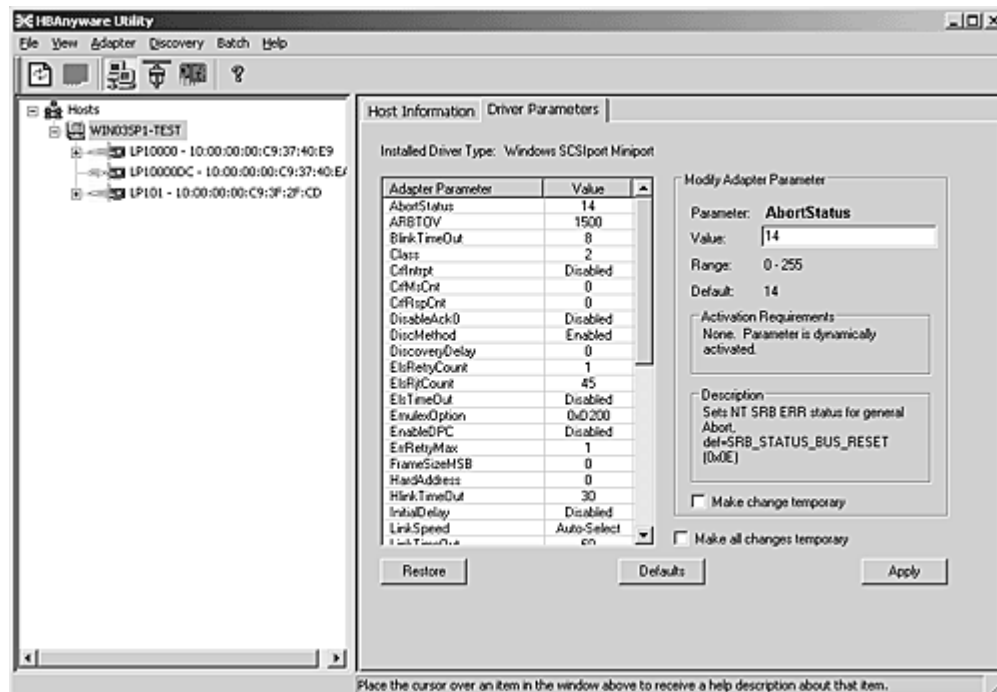

Figure 38: HBAnyware Utility, Host Driver Parameters Tab
4. Select the host Driver Parameters tab (see Figure 38). The Installed Driver Types drop-down box shows a list of all driver types and driver versions currently installed on the HBAs in the host.